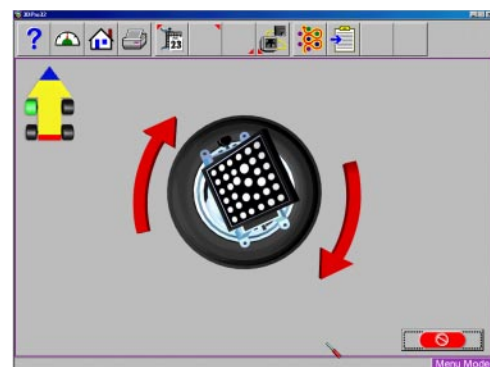

Figure 3-46
7. If the tire and wheel is rotated past the 25° point the arrows will change from blue to red letting the operator know to rotate back. (Figure 3-46)